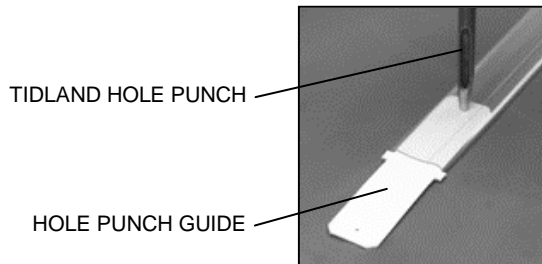

Fig. 4
2. Insert either end of the hole punch guide into the bladder and punch a 4 mm (5/32") diameter hole through the bottom wall of the bladder only. (Fig. 4)